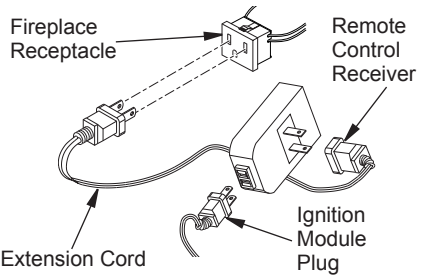

Figure 18 - Installing WRC Remote Receiver
2. The WRC model receiver does not require a battery. Receiver can be installed by first plugging short extension cord into fireplace receptacle. Then plug receiver unit into extension cord. Finally plug ignition module plug into receiver unit (see Figure 18).